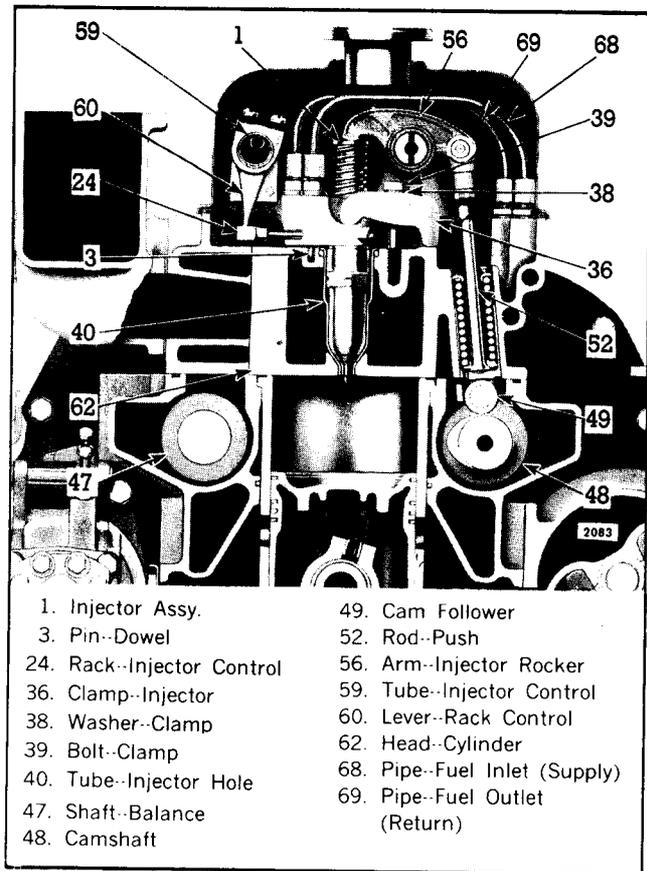

Fig. 6 - Fuel Injector Mounting
1. Refer to Fig. 6 and insert the injector into the injector tube with the dowel in the injector body registering with the locating hole in the cylinder head.
The motion of the injector rocker arm is transmitted to the plunger by the follower which bears against the follower spring (Fig. 6). In addition to the reciprocating motion, the plunger can be rotated, during operation, around its axis by the gear which meshes with the control rack. For metering the fuel, an upper helix and a lower helix are machined in the lower part of the plunger. The relation of the helices to the two ports changes with the rotation of the plunger.
2. Remove the fuel pipes from both the injector and the fuel connectors (Fig. 6).